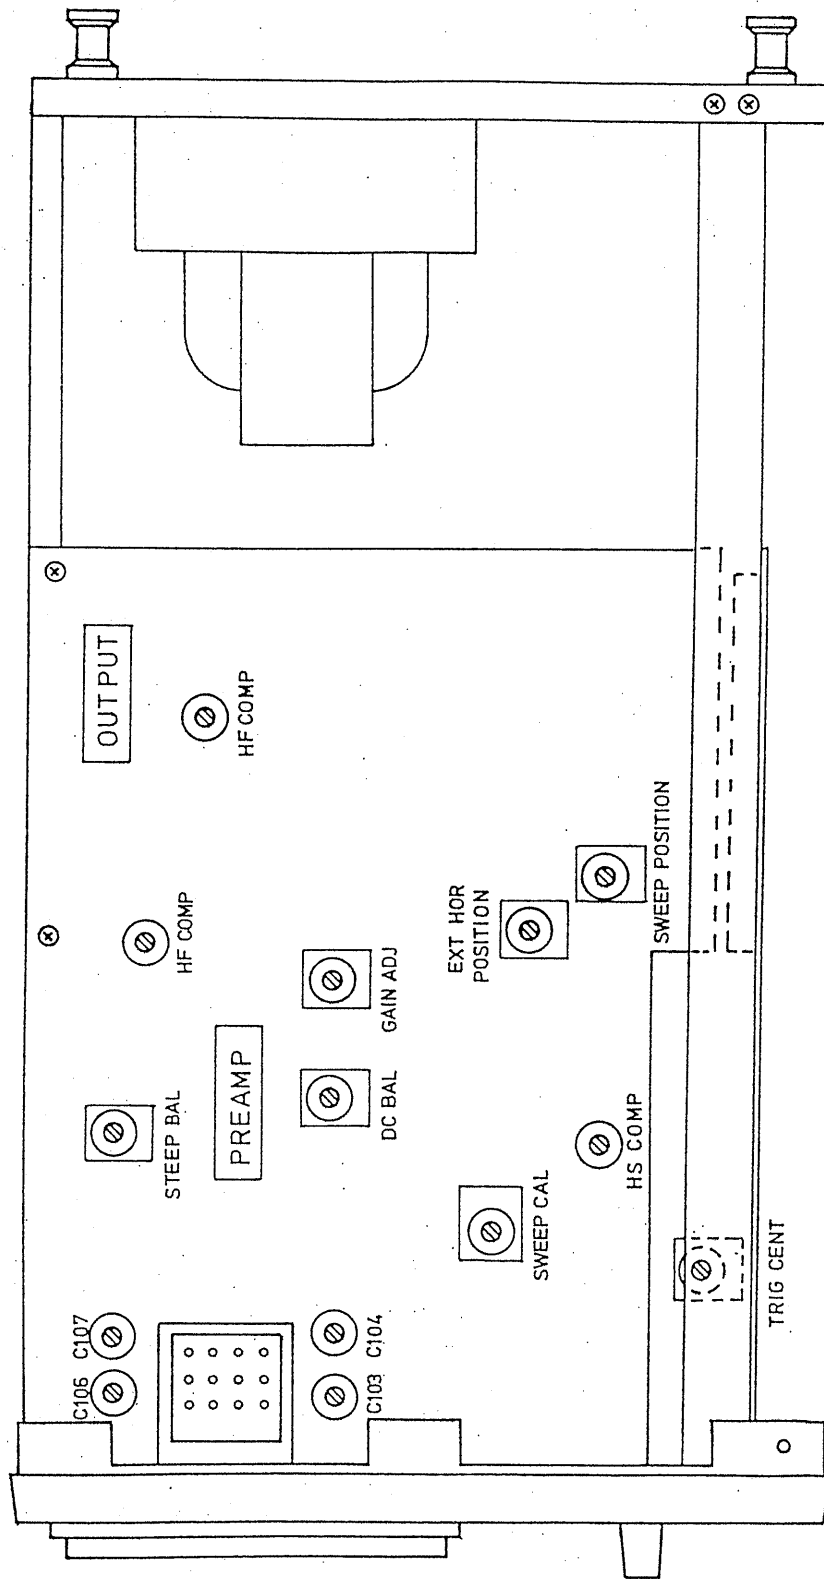

Fig. 26
- (1) Set the GND switch (11) in the GND state and display the trace on the CRT screen.
- (2) Turning the VOLTS/DIV switch between 10 mV and 50 mV positions, so adjust the STEP BAL control (see Fig. 26) that the shift of the trace becomes minimum.
- (1) Set the pulse wave generator output at 40 mVp-p and apply this signal to the vertical INPUT terminal (9).
- (2) Set the VARIABLE knob (8) in the CAL position and the VOLTS/DIV switch (7) in the 10 mV position, and so adjust the GAIN ADJ control (Fig. 26) that the deflection amplitude on the CRT screen is made 4 DIV.
- (1) Apply a sine wave of about 1 kHz to the vertical input and deflect the waveform fully on the CRT screen.
- (2) Select the INT trigger "+" slope and so set the LEVEL knob that its white mark is positioned in the noon high position. Under this state, so adjust the TRIG CENT control (see Fig. 26) that the trigger point is at the center of the deflection amplitude.
- (1) Set the TIME/DIV switch in the 1 msec position and apply a time marker signal of 1 msec or a sine wave signal of 1 kHz to the vertical input terminal of the oscilloscope. Deflect the signal with an appropriate amplitude on the CRT screen by adjusting the generator output or oscilloscope gain.
- (2) So adjust the SWEEP CAL control (see Fig. 26) that the displayed waveform conforms with graticule divisions.
- (3) Set the TIME/DIV switch in the 1 μ sec position and apply a time marker signal of 1 μ sec or a sine wave signal of 1 MHz to the vertical input terminal of the oscilloscope.
- (4) So adjust the HS COMP control (see Fig. 26) that the waveform conforms with graticule scale divisions.
So adjust the SWEEP POSITION control (see Fig. 26) that, with the white mark of the \leftrightarrow POSITION knob (20) set in the upright position (noon high position), the start position of the sweep is brought to the left-hand end of the graticule.
Set the TIME/DIV switch (13) in the EXT HOR position and the white mark of the \leftrightarrow POSITION knob (20) in the upright (noon high) position. So adjust the EXT HOR POSITION control (see Fig. 26) that the beam spot is displayed in the center of the CRT screen.